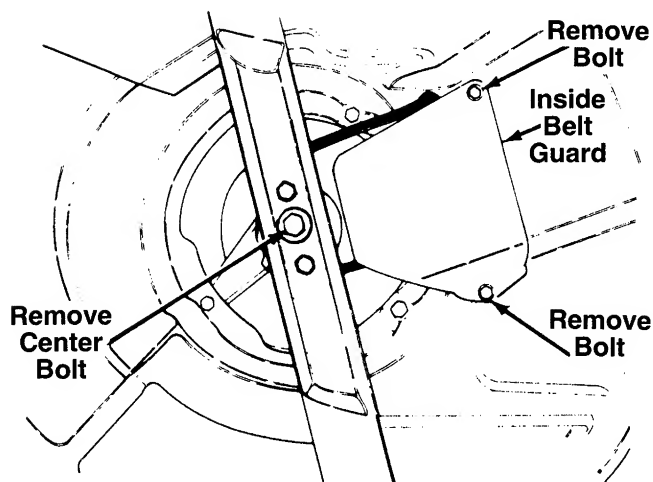

FIGURE 17.
5. Remove the center bolt which secures the blade to the crankshaft. See figure 17. Remove the blade, blade adapter and pulley half. Remove the belt.
6. Remove the inside belt guard by removing two self-tapping screws. A 3/8" wrench is required. See figure 17.
7. Remove the belt from between the idler pulley and the belt guard on the idler pulley bracket. See figure 17.